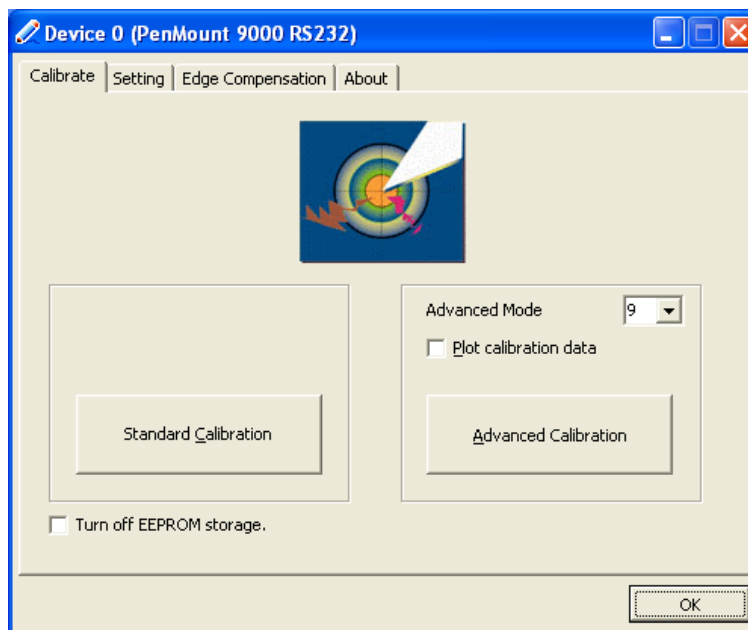

Figure 5-30: Calibration Initiation Screen
Step 7: The calibration initiation screen in **Figure 5-30** appears.
Step 8: Select the **Standard Calibration** button as shown in **Figure 5-30**.